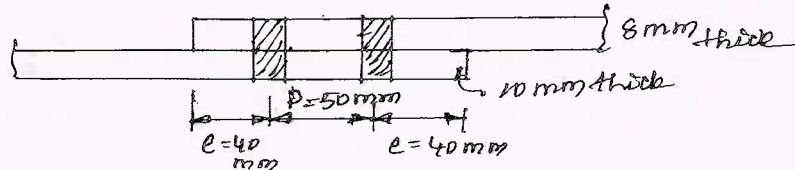

Fig.Q3(b)
- b. Determine the "bolt value" for a bolt M16 and property class 4.6. Used to connect lap joint as shown in Fig.Q3(b). Take ultimate Tensile Strength of plate 410 MPa. (10 Marks)